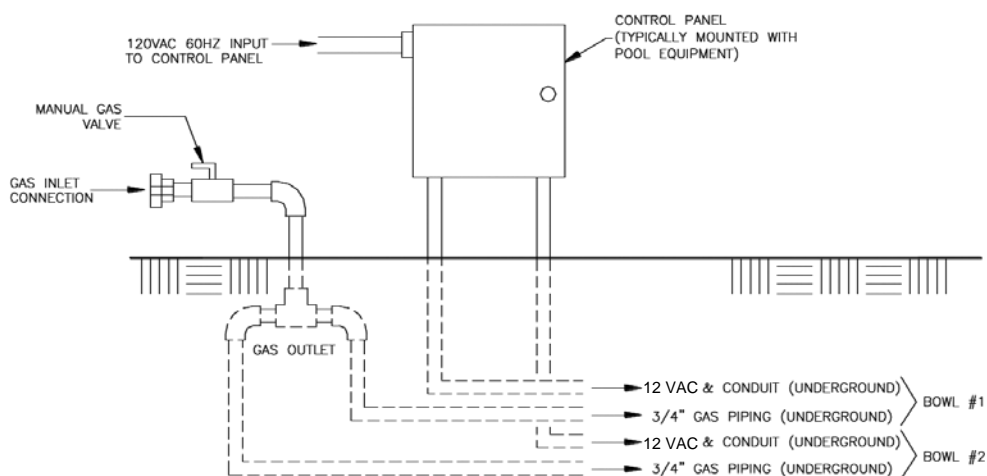
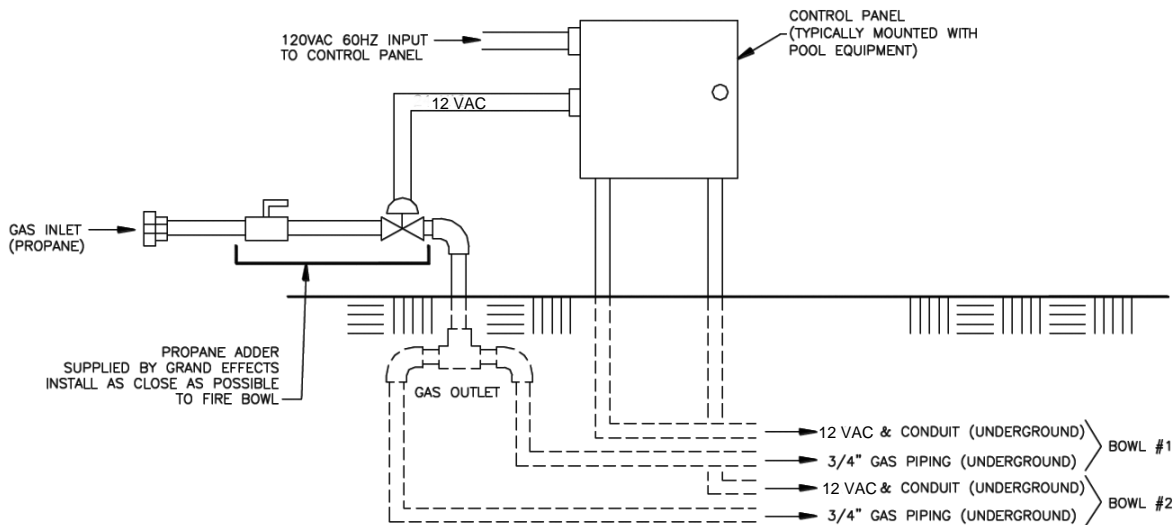

Figure 1: Natural Gas
Figure 2: Propane Gas
1. Install the control panel and gas piping as shown in Figure 1: Natural Gas, Figure 2: Propane Gas, or Figure 3: Commercial Installation. Gas lines must be clean and free from any dirt, debris, or contamination.
**Note:** Propane piping is different than natural gas piping (shown in Figure 1 and Figure 2).
2. The gas piping must be installed underground between the control panel and each fire bowl, as shown in Figure 1.